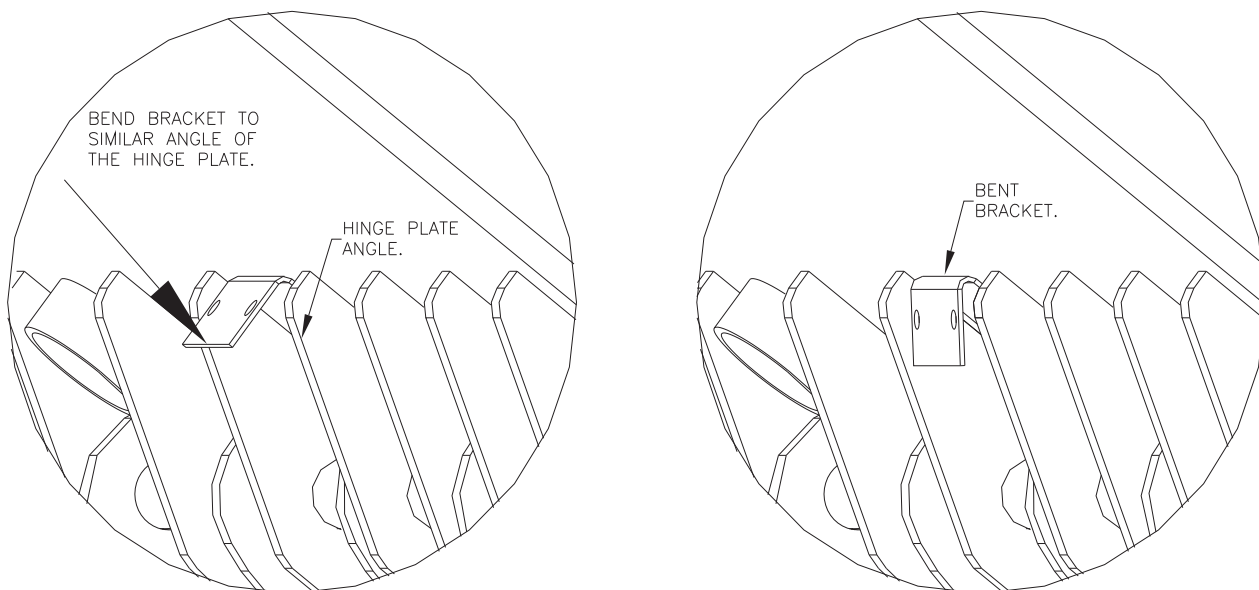

FIGURE 20
5. Bend each bracket short leg to approximate the same angle of the hinge bracket. (See Figure 20.)